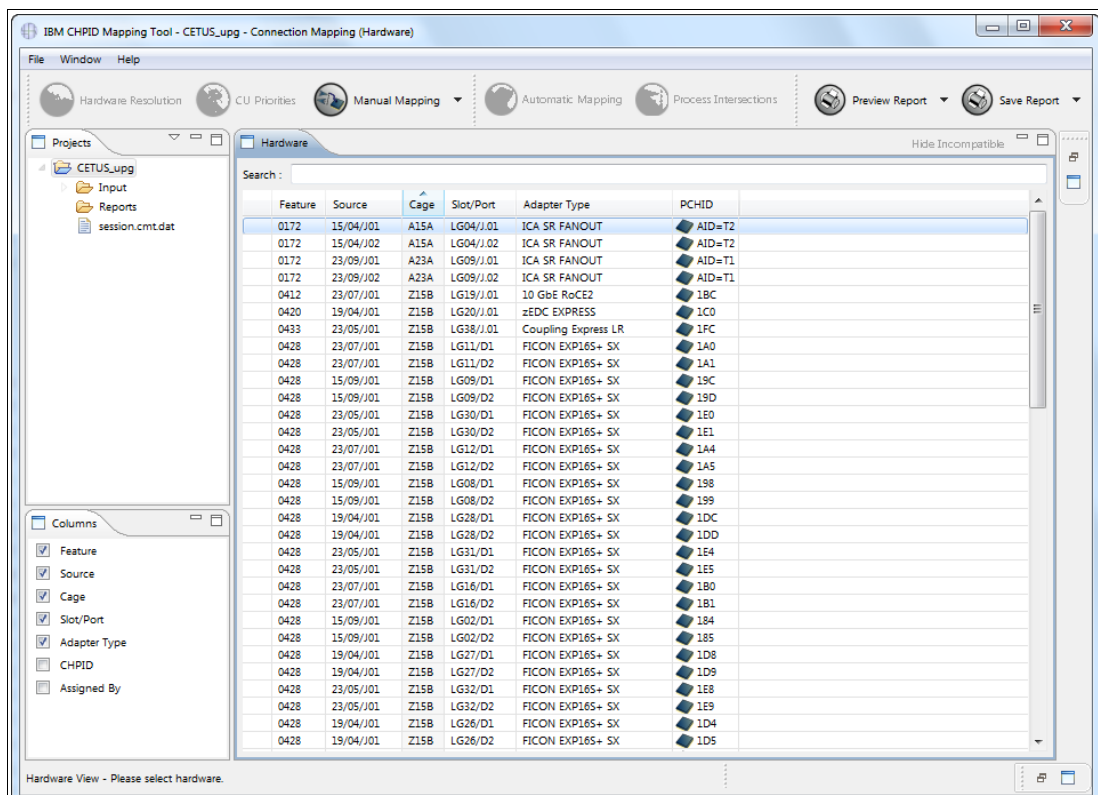

Figure 4-11 Imported CFReport file
5. The information from the CFReport file is displayed in the Hardware pane (see Figure 4-11).